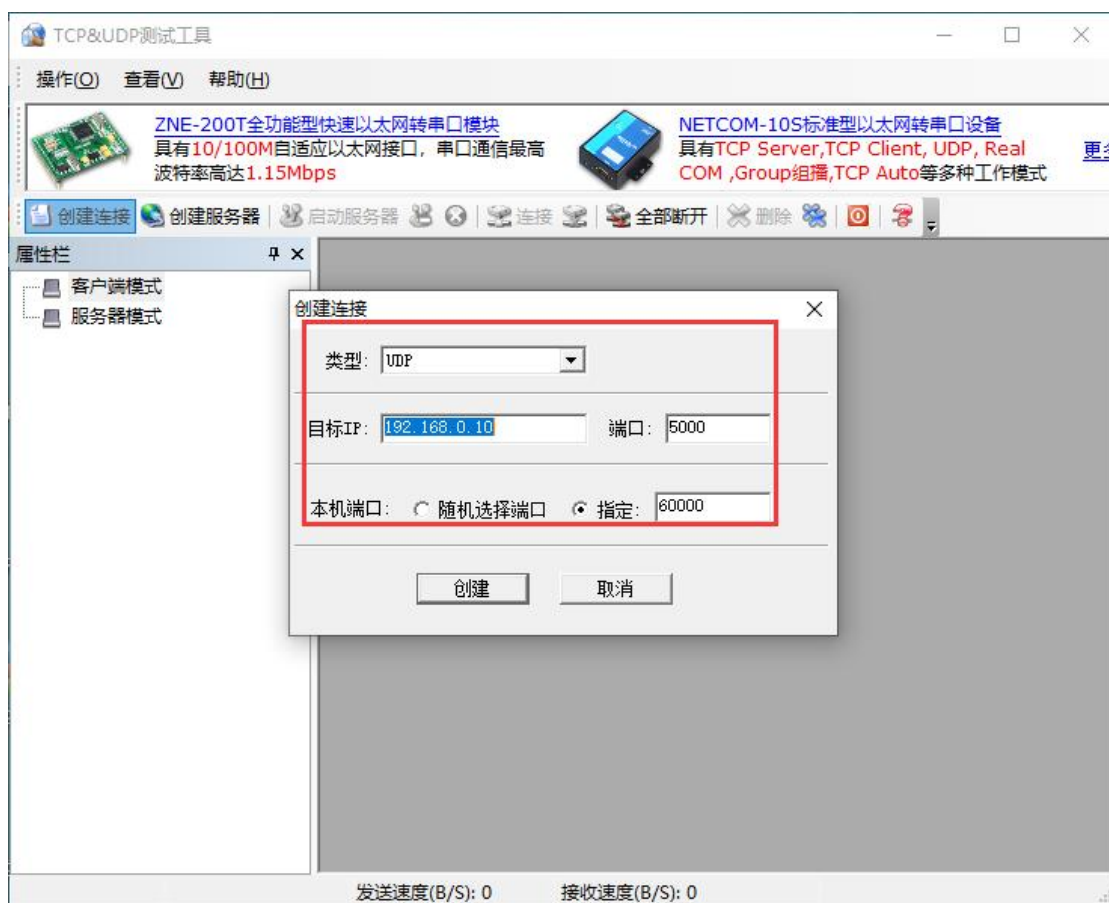
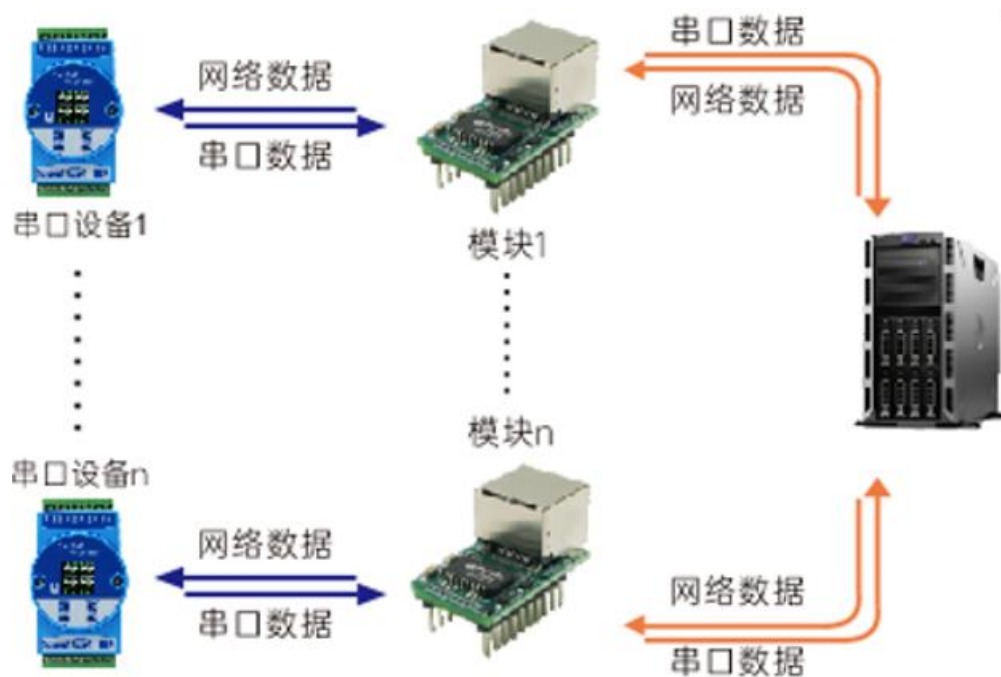
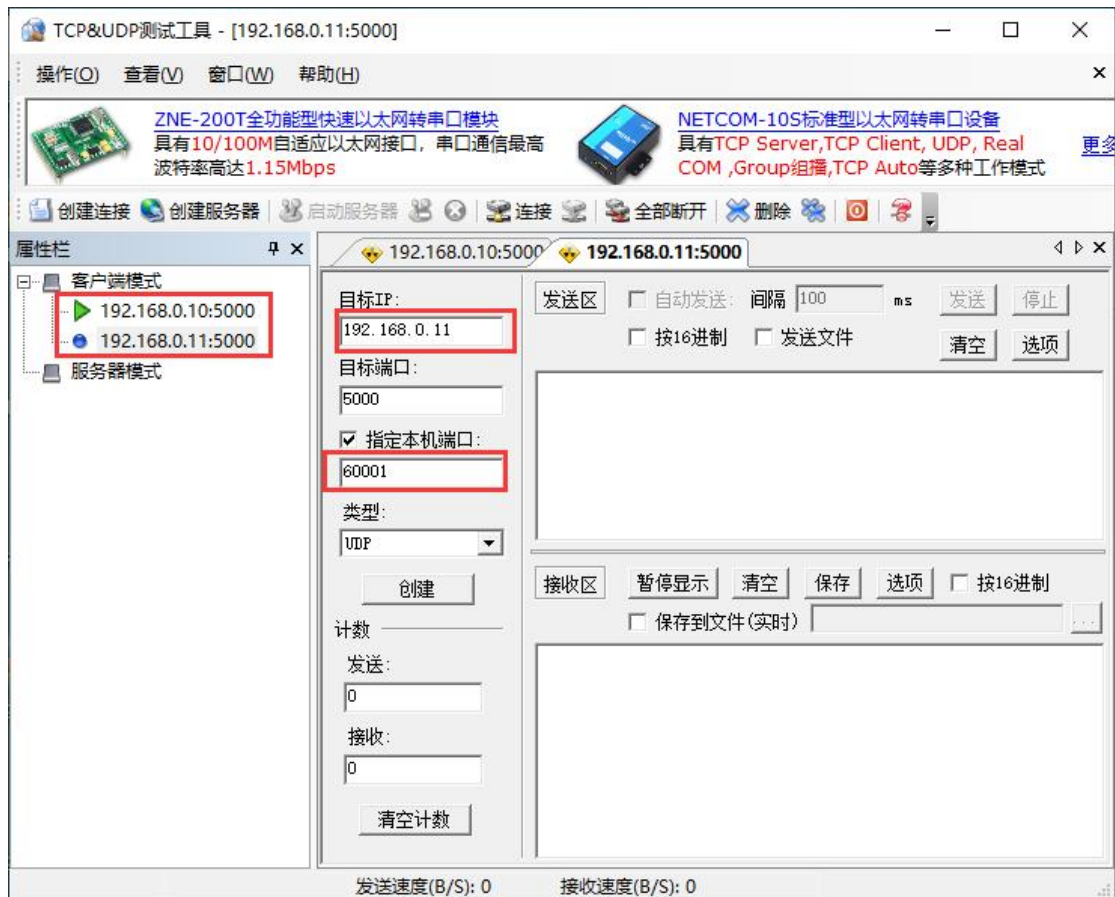
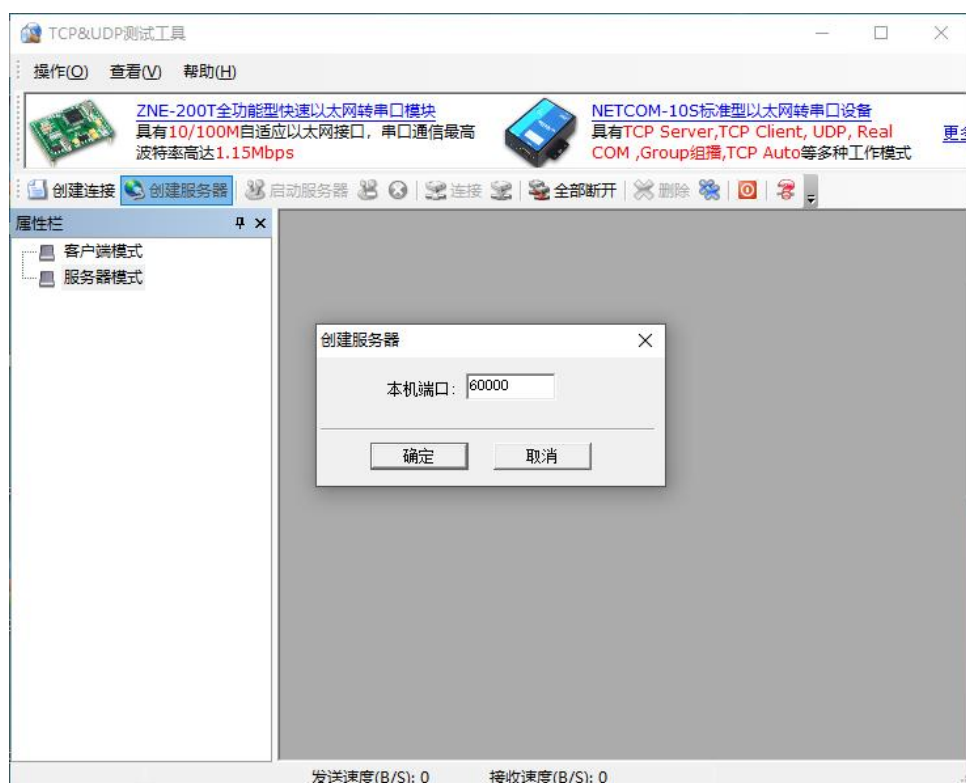

Figure 6-7 UDP Mode Settings
Figure 6-9 Schematic diagram of communication between multiple devices and one computer
Figure 6-10 Communication setting interface between computer and multiple serial devices
Figure 6-13 TCP Server Creation
3) Set the computer IP to 192.168.0.1, open "TCP & UDP Test Tool", create a connection, and select the mode. Select UDP, and other parameter settings are as shown in Figure 6-7.
(5) In this mode, multiple modules can be connected to the same computer to communicate with multiple serial devices, as shown in Figure 6-9. At this time, the corresponding client can be added by using the setting method shown in Figure 6-7, as shown in Figure 6-10.
3) Set the computer IP to 192.168.0.1 (consistent with the remote IP set in the module), and open "TCP & UDP Test". Test Tool, set the server port to 60000, and set other parameters as shown in Figure 6-13.
(6) In this mode, multiple modules can be connected to the same computer server, and multiple serial devices can be connected at the same time. As shown in Figure 6-9. At this time, the corresponding server can be added by using the setting method shown in Figure 6-13, as shown in Figure 6- 15.